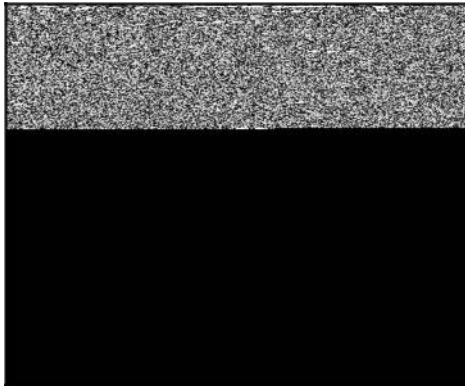

Figure 39
6. Then turn screw back to midpoint (Figure 39).